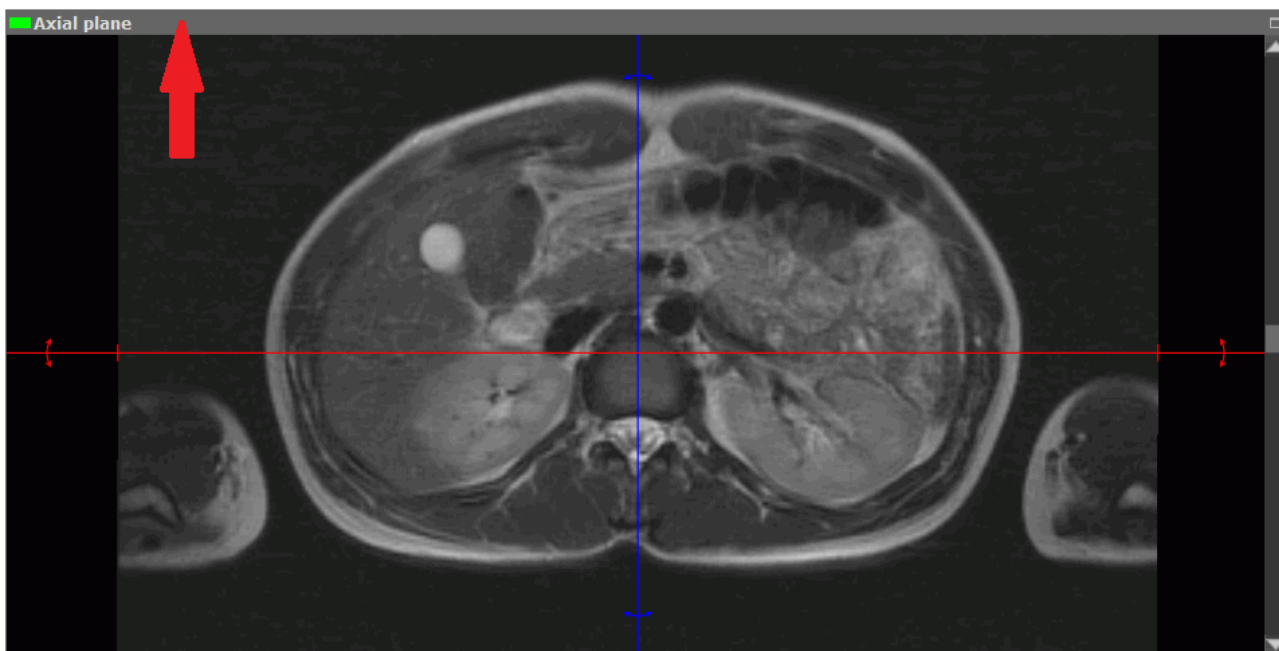

Figure 5.23: Window header
1. Activate the window in which the target image is located. To do this, click the left mouse button on the window area or header (marked by the arrow in Fig. 5.23).